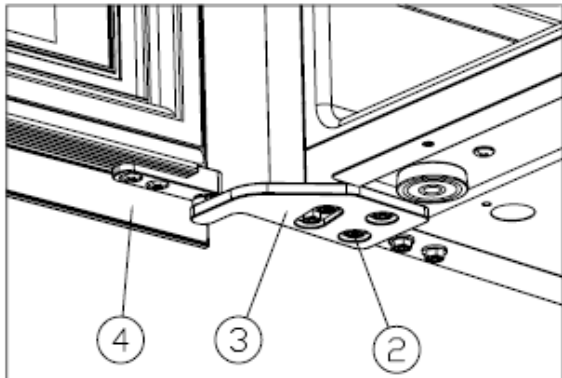

Figure 5
✧ Install the right upper hinge ③and screw tight theM5*16 screws②[Figure 5]